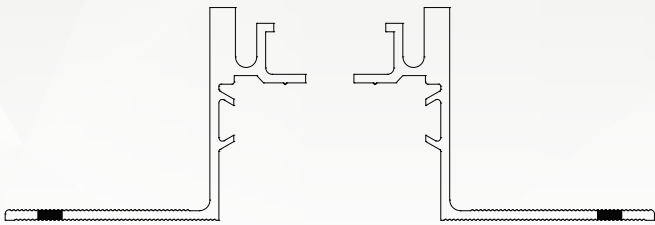

Figure 4.
7. Place the base members, or the base member and the wall member, about the width of the elastomeric seal apart on a flat working surface. Ensure that the base members' channels are facing one another (see Figure 4 & 5). Insert one of the elastomeric seal's tabs into the channel in one of the base members. Ensure that the seal's tab is inserted completely into the channel. Insert the elastomeric seal's opposite tab into the channel in the opposite base member. Ensure that the seal's tab is inserted completely into the channel.